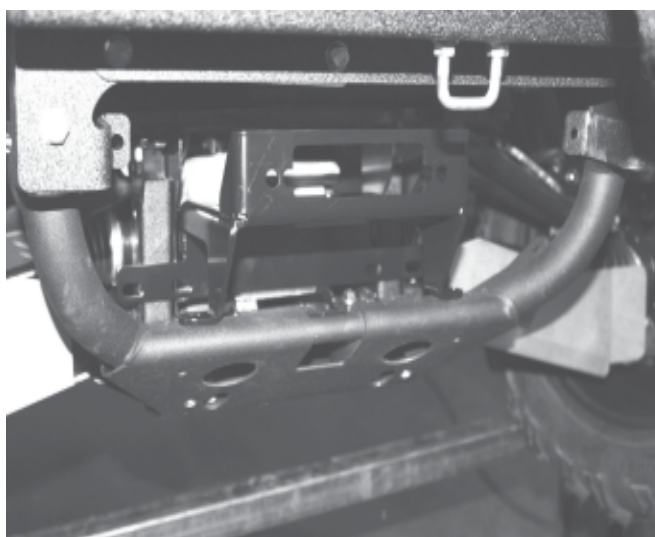

Figure 3
3. Place winch mounting plate (1A) into position as shown in figures 3 and 4.